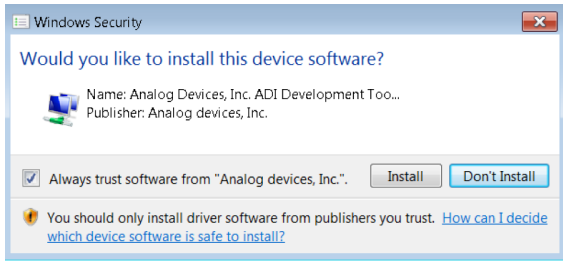
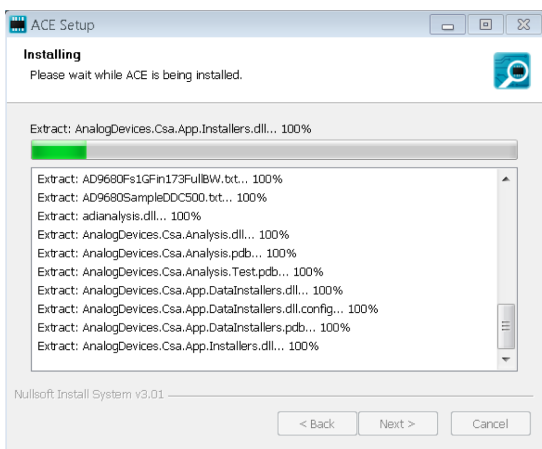

Figure 7. Windows Security Window
Figure 8. Installation in Progress
- 8. The **Windows Security** window appears. Click **Install** (see Figure 7). Figure 8 shows the installation in progress. No action is required.